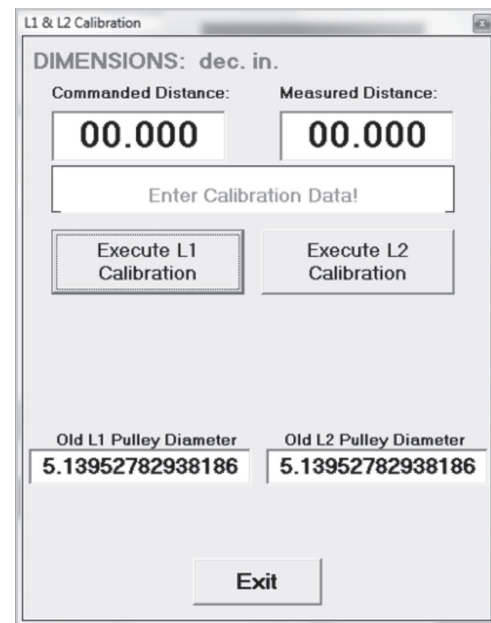
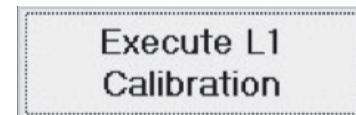

Figure 115
Figure 116
Step 6 – Enter the commanded distance (the length input) and the actual measured distance using the box shown in Figure 115.
Step 7 – Select “Execute L1 Calibration”. This button is shown in Figure 115 and Figure 116.